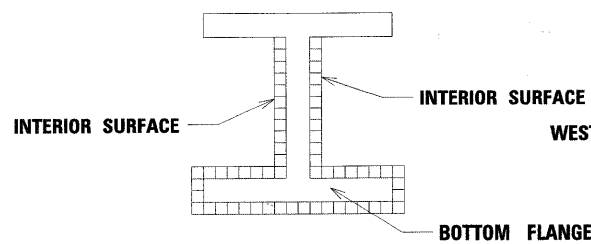
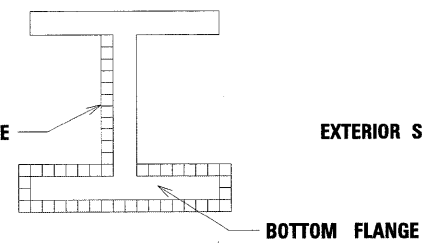

FIGURE 3
FIGURE 4
6. LOCATION 2 (016-1115): ALL STEEL PIERS FROM GROUND TO DECK, PLUS FIVE (5) FT. OF STEEL EITHER SIDE OF EACH STEEL PIER, SHALL BE CLEANED PER NEAR WHITE BLAST CLEANING SSPC-SP10. ALL BEAMS, BEARINGS AND OTHER STRUCTURAL STEEL WITHIN TEN (10) FT. (MEASURED ALONG THE BEAM) OF EITHER SIDE OF PIERS NO. 13 AND 14, SHALL BE CLEANED PER NEAR WHITE BLAST CLEANING SSPC-SP10. IN SPAN 14 (BETWEEN PIERS 13 AND 14), THE INSIDE FACES AND BOTTOM FLANGE (SEE FIGURE 3) OF BEAMS 10 AND 11 FROM WEST SHALL BE CLEANED PER NEAR WHITE BLAST CLEANING SSPC-SP10.
7. LOCATIONS 3 (016-1070), 4 (016-1114), AND 5 (016-1066): IN SPAN 3 (BETWEEN PIERS 1A AND 2), THE INSIDE FACES AND BOTTOM FLANGE (SEE FIGURE 3) OF BEAMS 15, 16, 23, AND 24 FROM WEST, SHALL BE CLEANED PER NEAR WHITE BLAST CLEANING SSPC-SP10. IN SPAN 3, THE WEST FACE AND BOTTOM FLANGE (SEE FIGURE 4) OF BEAM 7 FROM WEST, SHALL BE CLEANED PER NEAR WHITE BLAST CLEANING SSPC-SP10. AT PIER 22, ALL BEAMS, BEARINGS AND OTHER STRUCTURAL STEEL WITHIN TEN (10) FT. (MEASURED ALONG THE BEAM) OF EITHER SIDE OF PIER 22, SHALL BE CLEANED PER NEAR WHITE BLAST CLEANING SSPC-SP10.